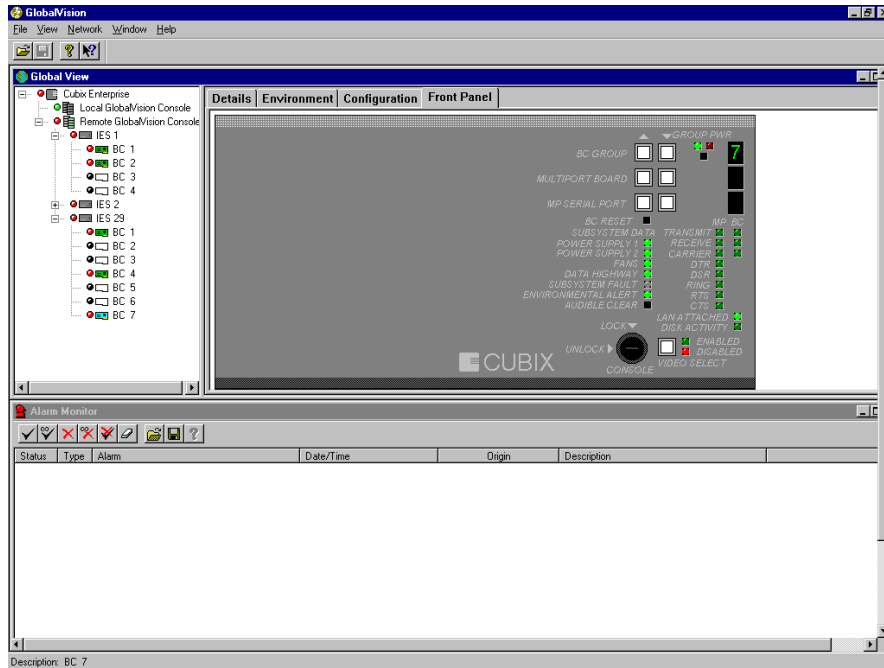

Figure 124 - Remote IES (ERS/FT II), Front Panel tab
The FRONT PANEL tab is a working representation of the physical front panel of the REMOTE IES (ERS/FT II or DENSITY) level under the REMOTE GLOBALVISION CONSOLE of the GlobalVision hierarchical tree. All the features of the FRONT PANEL tab work exactly the same as if using the front panel while sitting in front of the chassis. See Figures 124 (ERS/FT II) and 125 (DENSITY).
The BC Group selected appears in the BC GROUP SELECTED window, which is located on the top right-hand corner of the FRONT PANEL tab, just to the right of the GROUP POWER button. It is the top selected window in the group of three. See Figure 124.
1. Click on the BC GROUP UP button to select to the next computer board in the chassis. The new group number will appear in the BC GROUP SELECTED window. See Figure 124.
2. Click on the BC GROUP DOWN button to select the previous computer board in the chassis. The new group number will appear in the BC GROUP SELECTED window. See Figure 124.
The GROUP POWER button is used to power up or power down the selected group from the FRONT PANEL tab of the ERS/FT II. The GROUP POWER button is a small black square button. It is located on the top right-hand corner of the FRONT PANEL tab, in between the BC GROUP UP / DOWN buttons and the BC GROUP SELECTED window, and just below the GROUP POWER ON / OFF indicators. See Figure 124.
The GROUP POWER ON / OFF indicators show whether the group currently has power. The GROUP POWER ON / OFF indicators are two LEDs, which can be green, red, or not illuminated. They are located on the top right-hand corner of the FRONT PANEL tab, just above the GROUP POWER button. See Figure 124.
2. Click on the GROUP POWER button to power off the selected group. See Figure 124.
2. Click on the GROUP POWER button to power on the selected group. See Figure 124.
The BC RESET button is used to reset the computer board in the selected group from the FRONT PANEL tab for the ERS/FT II. The BC RESET button is a small black square button. It is located on the top right-hand corner of the FRONT PANEL tab, below the MP SERIAL PORT UP button. See Figure 124.
1. Click on the BC RESET button to reset the selected group. See Figure 124.